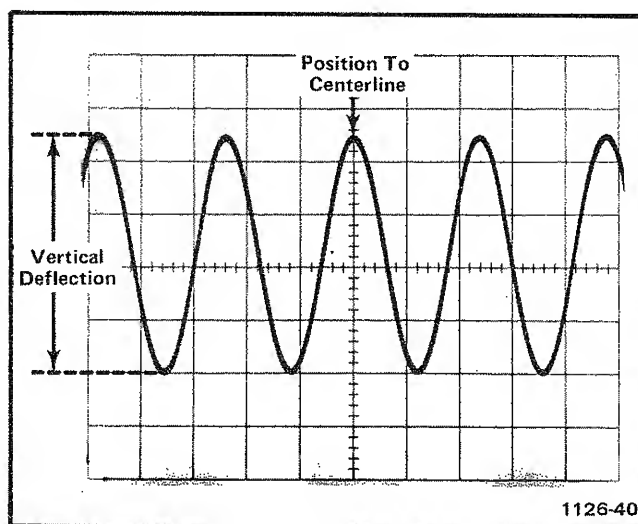

Fig. 2-2. Measuring the peak-to-peak voltage of a waveform.
6. Turn the 7A18A POSITION control so the lower portion of the waveform coincides with one of the graticule lines below the center horizontal line, and the top of the waveform is within the viewing area. With the time-base Position control, move the display so one of the upper peaks lies near the center vertical line (see Fig. 2-2).
EXAMPLE: Assume that the peak-to-peak vertical deflection is 4.5 divisions (see Fig. 2-2) using a 10X attenuator probe, and the VOLTS/DIV switch is set to 1 V.